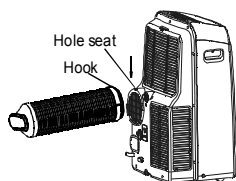

Fig. 17
2. Resert the hook of the Exhaust hose into the hole seat of the air outlet and slide down the Exhaust hose along the arrow direction (See Fig. 17) for installation.